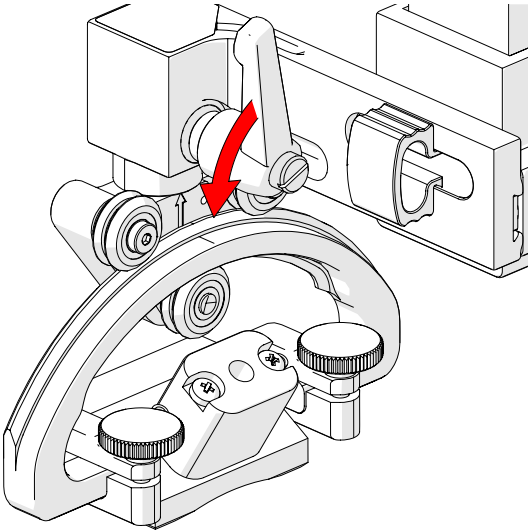

Fig. 215 - Loosen ratchet lever
1. Loosen the ratchet lever above the yoke (Fig. 215).